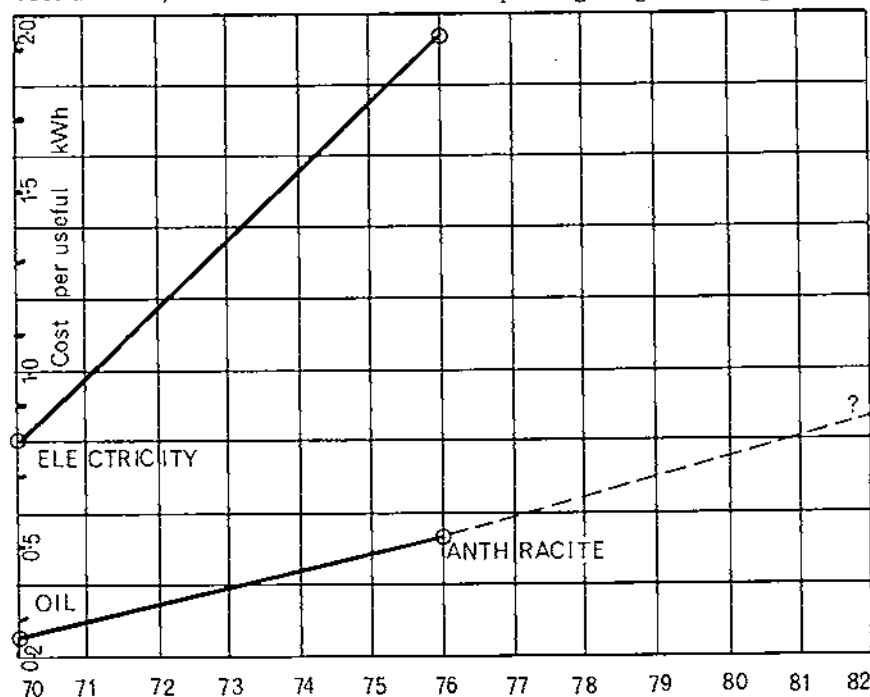

Fig 5 FUEL PRICE
Fig 5 shows the rise in the cost of the cheapest alternative domestic fuel over the years 1970–76; in 1970 it was oil, in 1976 gravity-fed anthracite grains: one cannot predict what it may be by 1982, but can safely say that it is very unlikely to cost less than 0.8p/useful kWh which makes the solar boiler output (34) worth £77.70 (37) for 27 m^2 in lat 51, or £215 for 75 m^2 in lat 60.